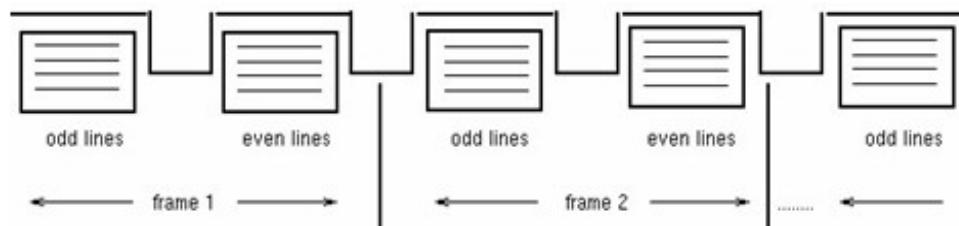

Figure 7- Interlacing frames
- Video is sent interlaced. This means two frame cycles are required to capture a full video display, where the first frame is all the odd horizontal lines and the second frame is all the even horizontal lines. This then gets repeated. See **Figure 7** below.